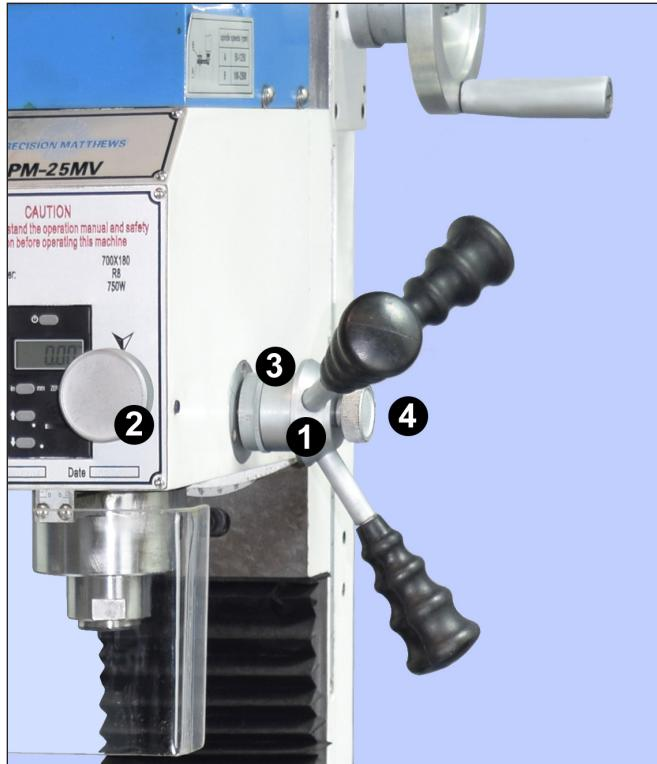

Figure 3-7 Quill downfeed controls
Coarse feed (Figure 3-7)
Fine feed (Figure 3-7)
4. Engage the fine downfeed, Figure 3-7.